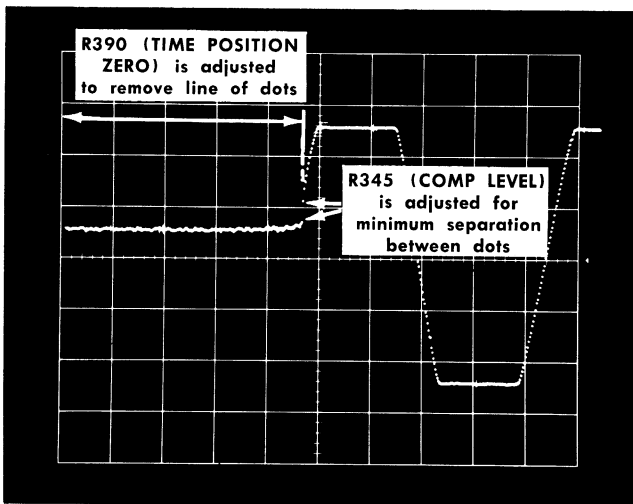

Fig. 5-32. Waveform for adjusting equivalent-time registration.
- k. Set the triggering controls so the waveform rise begins on a positive slope near the center of the screen (see Fig. 5-32).